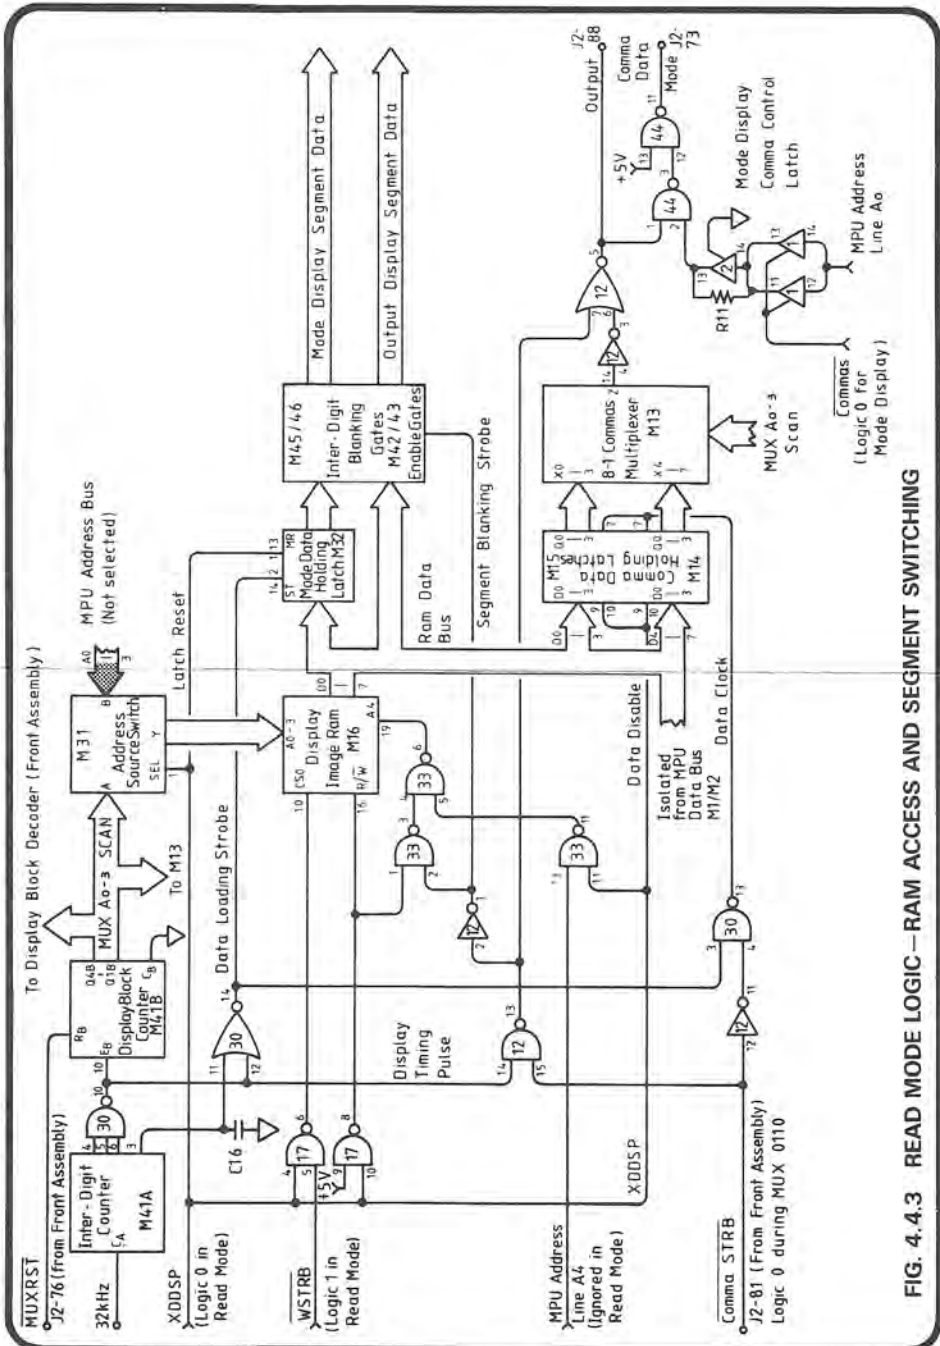

FIG. 4.4.3 READ MODE LOGIC—RAM ACCESS AND SEGMENT SWITCHING
4.4.4 Read Mode (Fig. 4.4.3)
4.4.4.1 Display Scan Address Interlacing (Figs. 4.4.3 and 4.4.4)